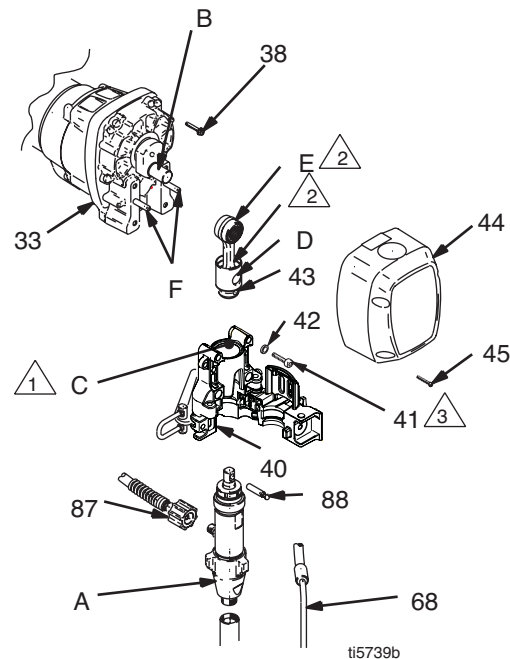

FIG. 1
2. FIG. 1. Remove four screws (45) and front cover (44)
4. Remove four screws (41) and washers (42) from bearing housing (40).
5. Pull connecting rod (43) and lightly tap lower rear of bearing housing with plastic mallet to loosen from drive housing (33). Pull bearing housing and connecting rod assembly off drive housing.
6. Inspect crank (B) and connecting rod (43) for excessive wear and replace parts as needed.
8. Install screws (18) in drive housing. Torque evenly to note 3 value in Fig. 1.